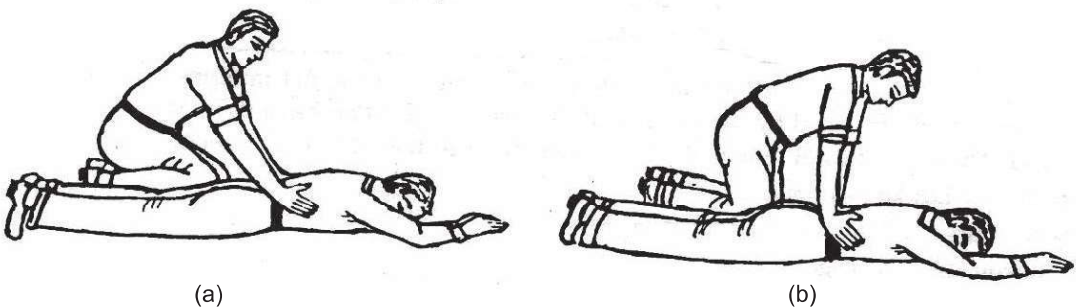

Fig. 17.1 Schafer's method of artificial respiration (a) Lay the victim on the stomach (b) Kneeling over the victim
1. Victim is laid on the stomach, with his face on one side and pull the arms forward as shown in Figure 17.1(a).
4. Kneel over the victim as shown in Figure 17.1(b) and place both your hands flat on his back. Place your hand in such a manner that both of your thumbs nearly touch each other and fingers are spread on each side of the victim's lower ribs.
5. Lean forward over the victim gradually and gently by putting your weight on the victim for a moment as shown in Figure 17.1(b).